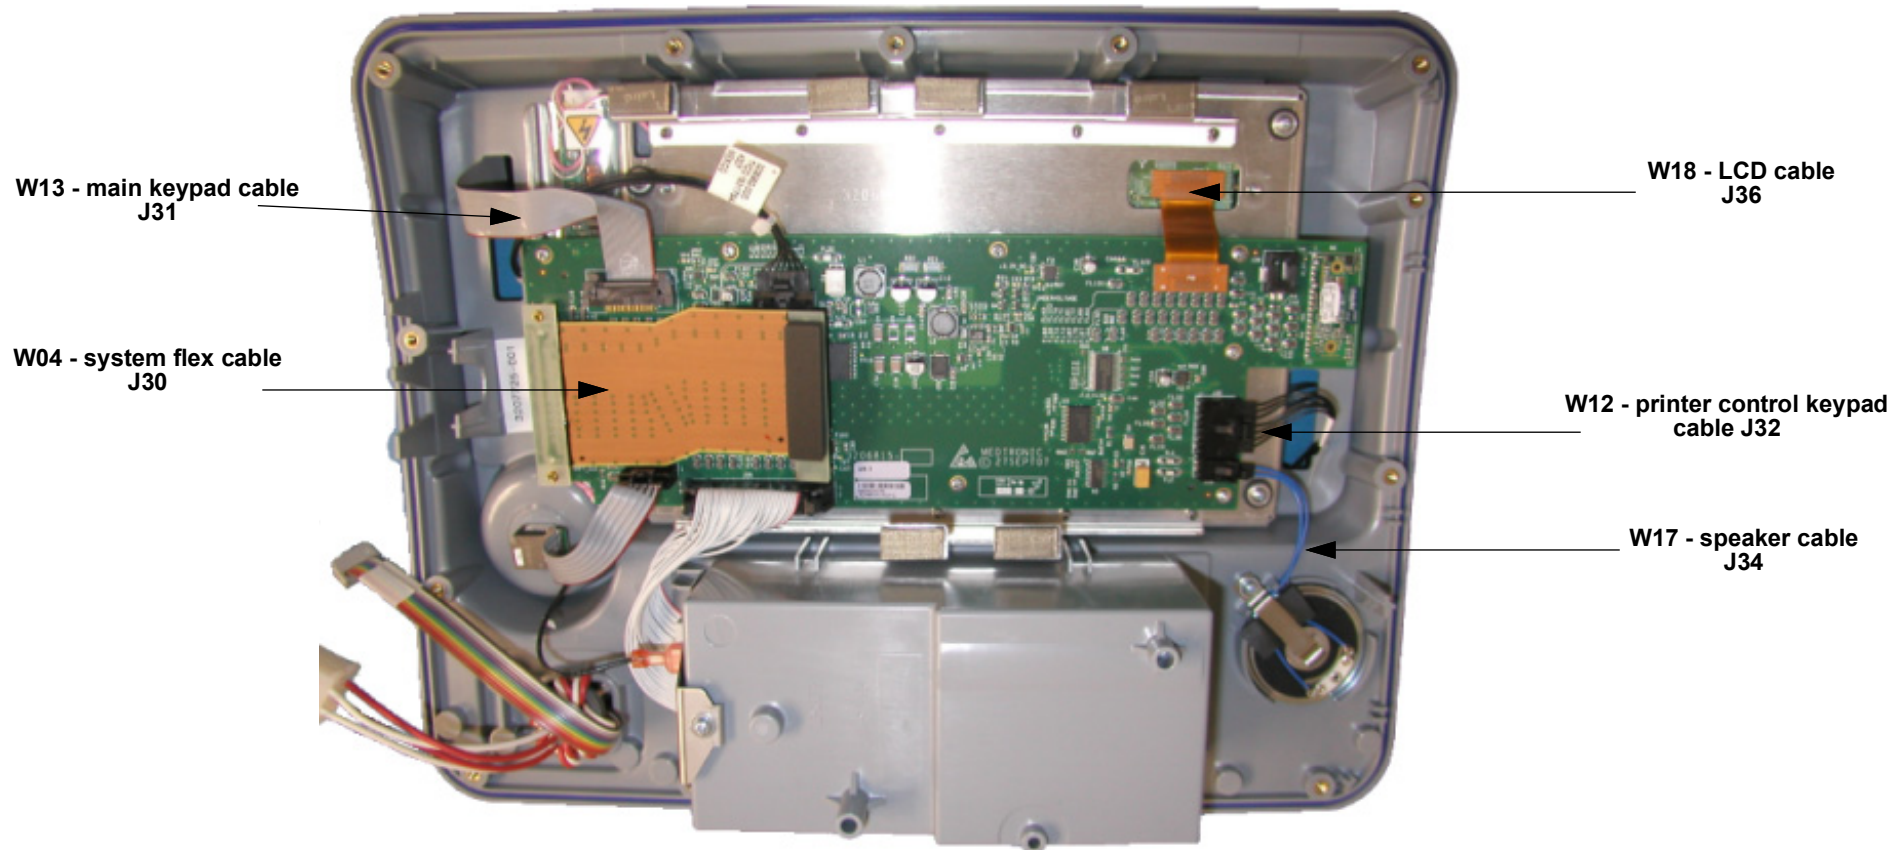
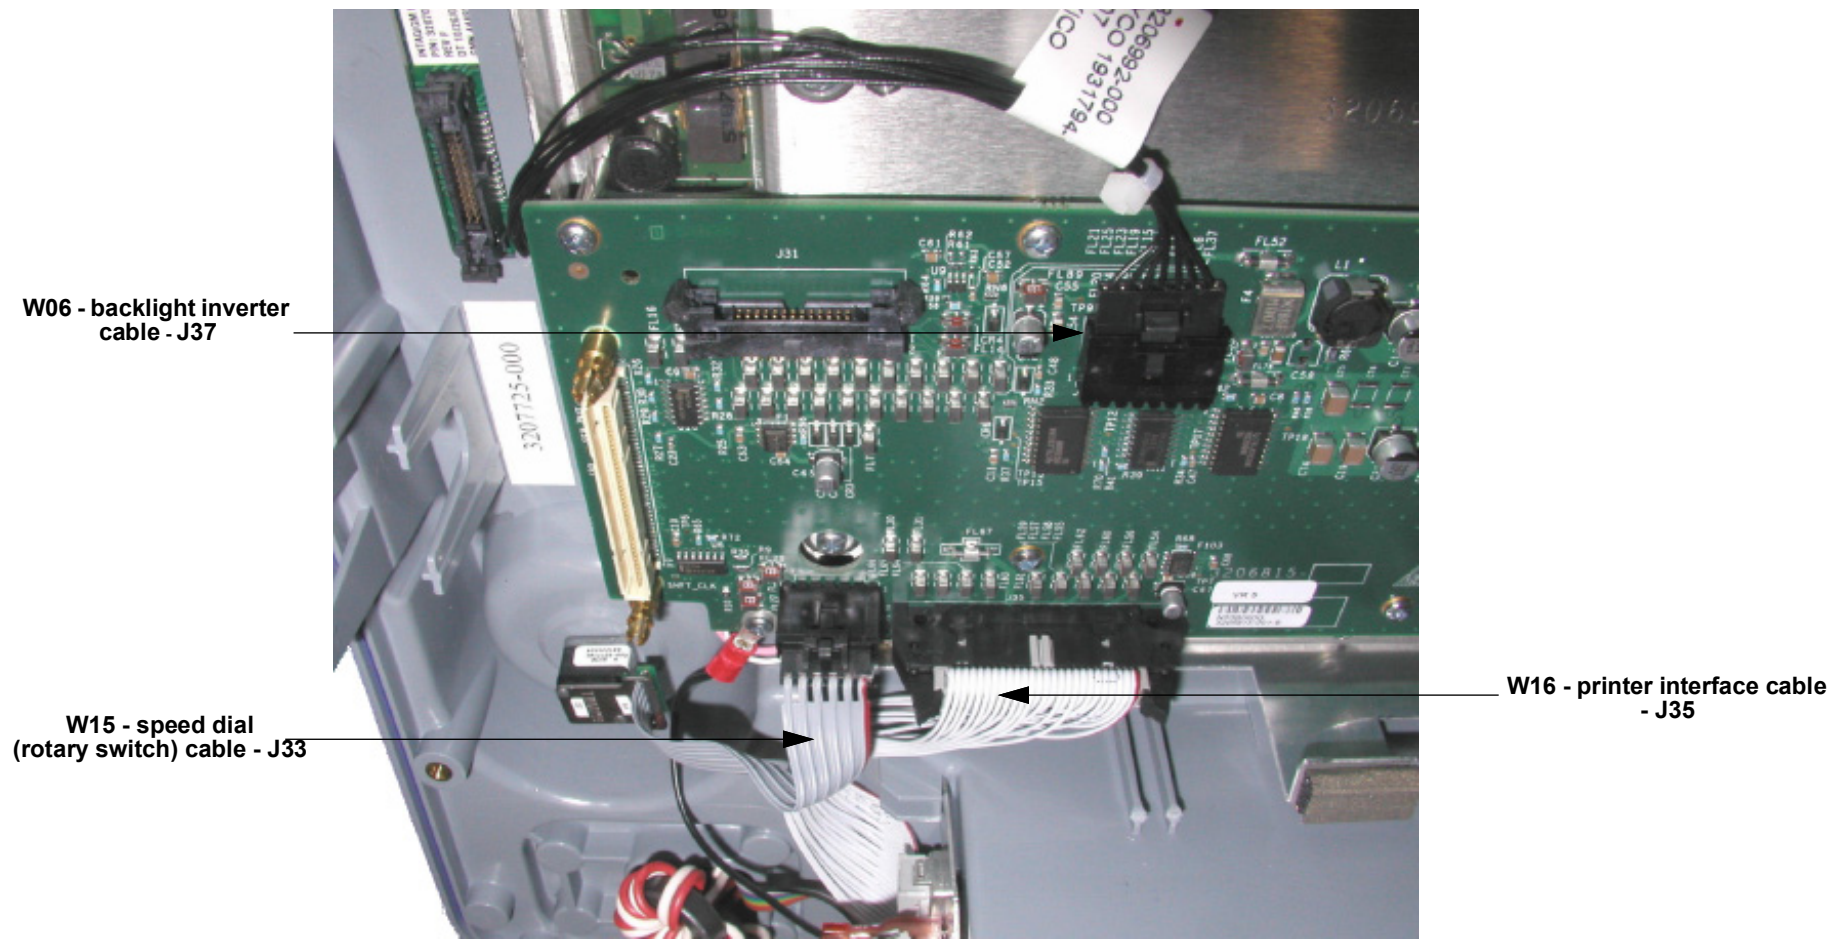

Figure 8.11—Interface PCB cable connection locations - view 1 of 2
Figure 8.12—Interface PCB cable connection locations - view 2 of 2
2. Disconnect the connectors (from top left, counterclockwise) as follows (see Figure 8.11 on p. 190 and Figure 8.12 on p. 191):
3. Install the connectors clockwise, as follows (make sure all connector locking tabs are positioned to secure their respective connectors) (see Figure 8.11 on p. 190 and Figure 8.12 on p. 191):